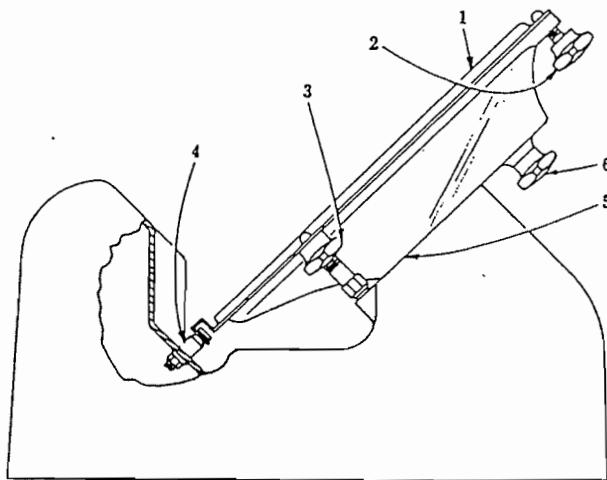

Fig. 3
6.2.6 To remove front guards, loosen the two retaining knobs (2 & 3, Fig. 3), rotate the front knife guard (1, Fig. 3) clockwise to clear slots at the screw heads and unhook from the stud (4, Fig. 3). Lift off front guard. After front guard is removed, the back guard (5, Fig. 3) can then be disassembled by turning the knob (6, Fig. 3) counterclockwise.